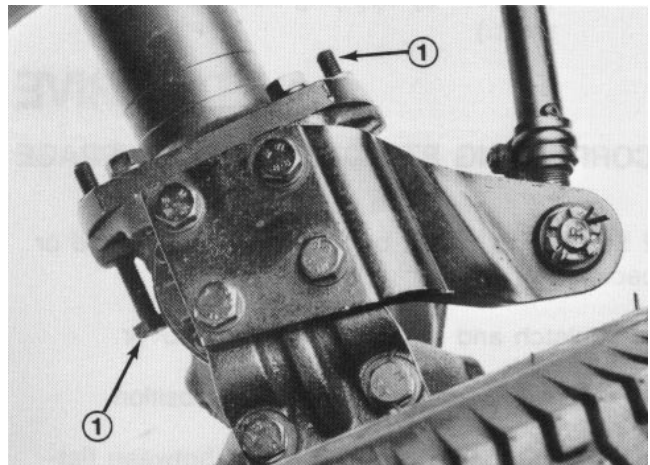

Figure 7
1. Thread bolt in out out until 0.090 in. clearance is attained (Fig. 7)